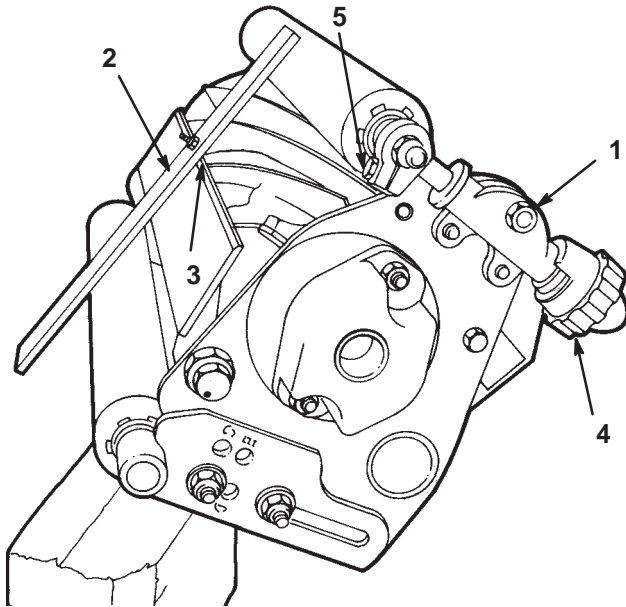

Figure 7
2. Turn the cutting unit over and loosen the locknuts securing the front roller adjusting screws to the height-of-cut brackets (Fig. 7).
4. Place the bar across the front and rear rollers and adjust the height-of-cut knob until the underside of the screw head engages the bedknife cutting edge (Fig. 7).